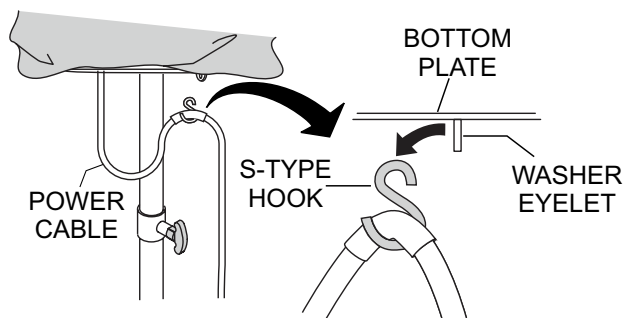

Figure 26. Removing Power Cable
2. Remove the S-type hook (Figure 26) on the AC power cord from the washer-eyellet located on the bottom plate of the light assembly.